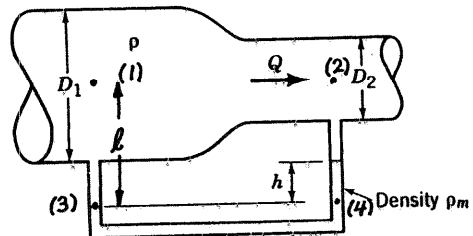

FIGURE P3.42
3.42 An inviscid fluid flows steadily through the contraction shown in Fig. P3.42. Derive an expression for the fluid velocity at (2) in terms of D_1 , D_2 , ρ , ρ_m , and h if the flow is assumed incompressible.